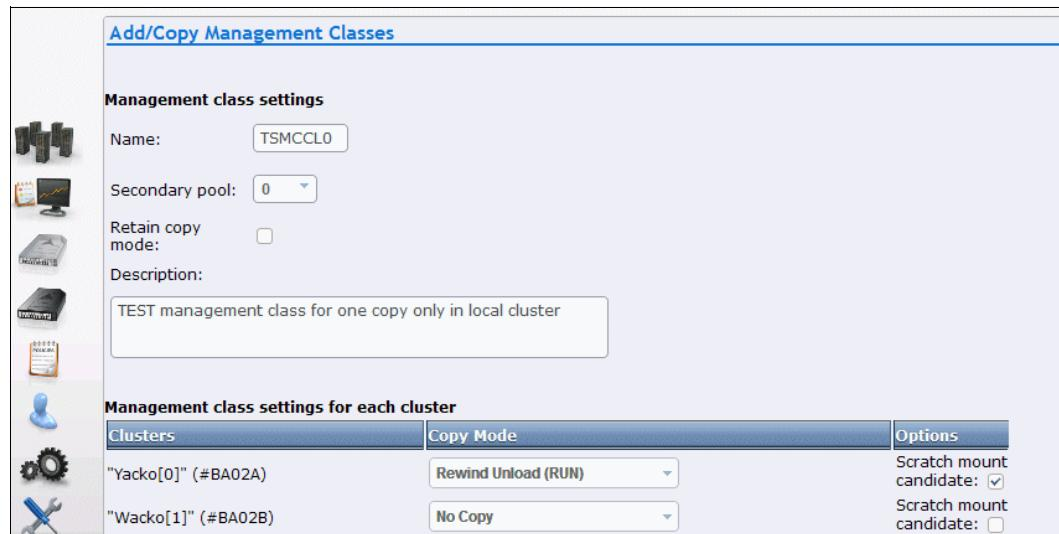

Figure I-6 Management Class for TEST
2. Define an MC for TEST that is named TSMCCL0 with only one copy of data and cache residency in cluster0, as shown in Figure I-6. Set the Copy Consistence Point to RUN on cluster0 and NOCOPY on cluster1. The other MCs are defined in a similar way.